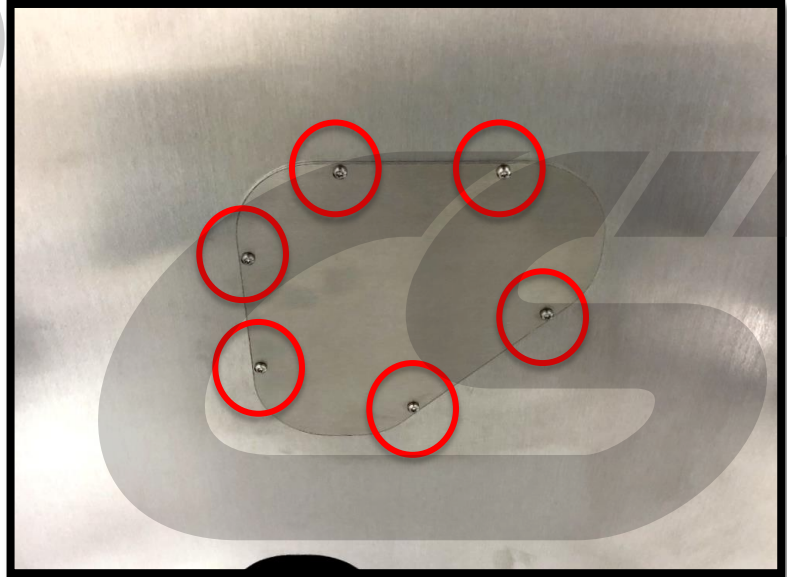

Figure 4a
- c) Remove five (5) of the six T20 Torx screws. They are shown circled in red in **Figure 4a** on the next page.